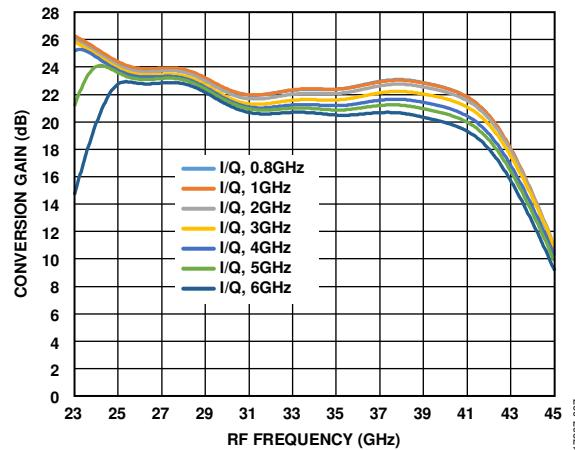
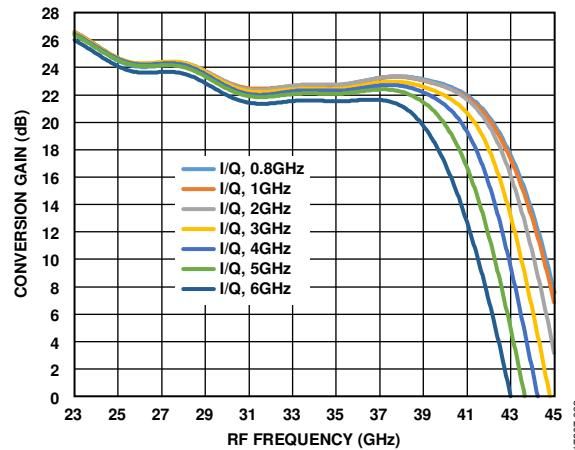

Figure 94. Conversion Gain vs. RF Frequency for Multiple Baseband Frequency Settings (Upper Sideband)
Figure 95. Conversion Gain vs. RF Frequency at Multiple Baseband Frequency Settings (Lower Sideband)
Figure 94 and Figure 95 show the conversion gain vs. RF frequency in I/Q mode for multiple baseband (BB) frequencies ( $T_A = 25^\circ\text{C}$ , LO = 0 dBm) for upper sideband and lower sideband, respectively.